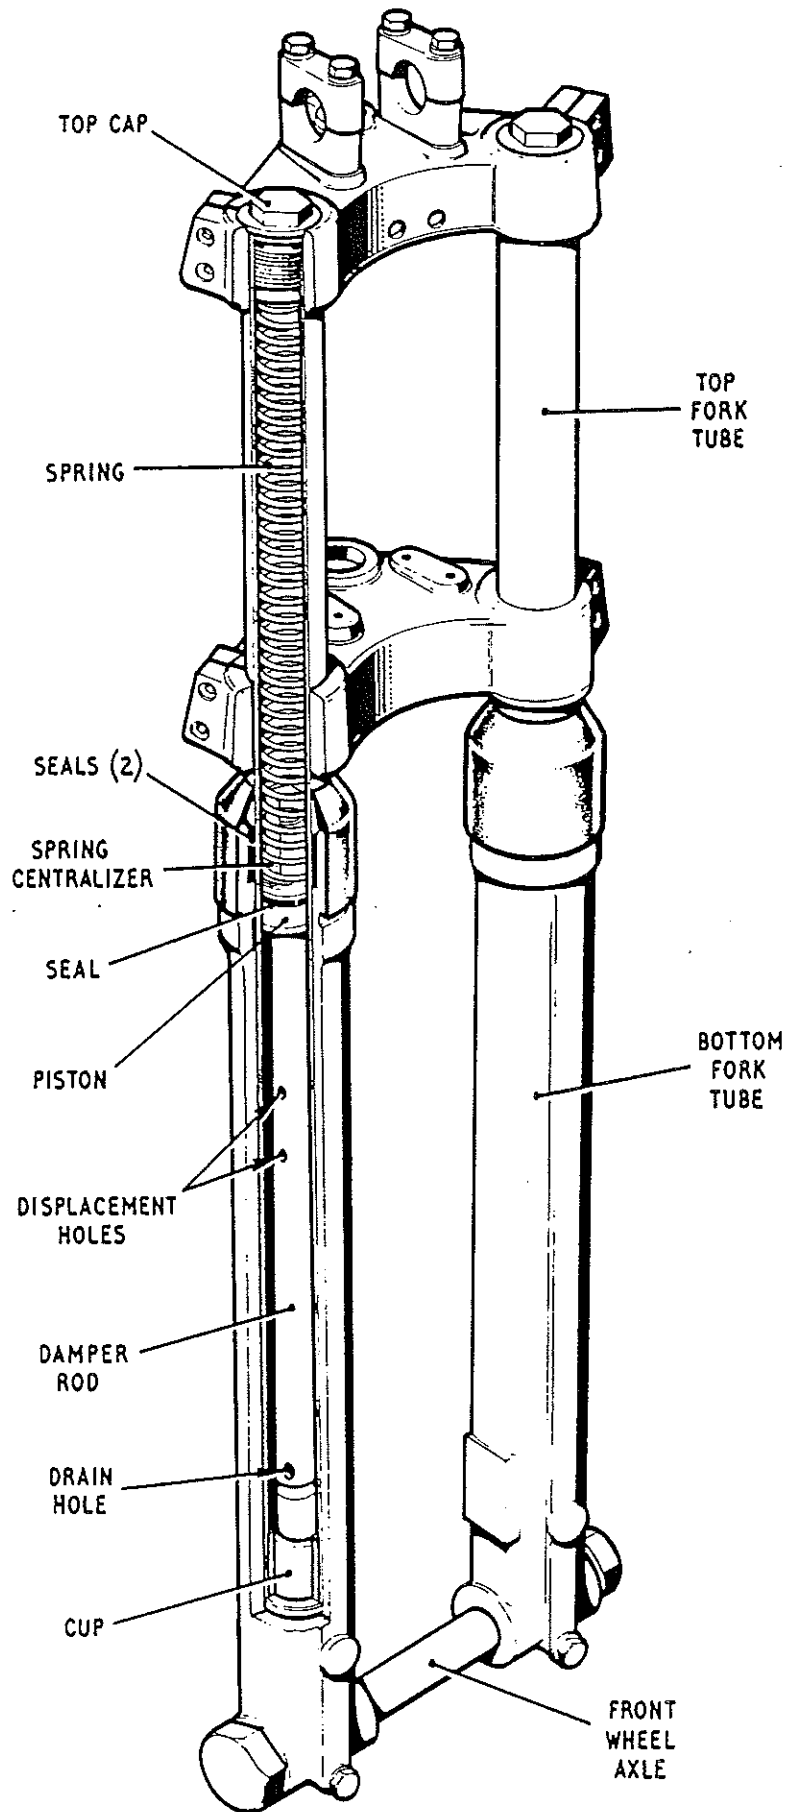

FIG. 8.1 FRONT SUSPENSION UNIT
8.5 Operation. The fork springs form the main part of the suspension as in normal vehicle systems employing leaf or coil springs. The spring oscillations are damped out by using a hydraulic damper. As the unit is compressed, air in the top chamber is pressurized. The pressure is felt down the centre of the piston rod and forces the oil level down. The oil is forced out of the hole(s) in the piston rod. As soon as the oil uncovers the hole, air pressure is released into the bottom chamber. If the unit is compressed more the pressure in the top tube is increased and the oil in the piston rod is forced down further. The travel is consequently greater and the second hole is uncovered. The damping effect therefore is by forcing the oil out of the holes. If a thinner oil is used it will pass through the holes more readily giving a softer ride and conversely if thicker oil is used it would mean harsher damping. Again if the oil level is too high more pressure would be required to push the oil level down to the holes, and again it would lead to harder suspension. Conversely if the level were too low only a small pressure would be required to uncover the holes. As the spring re-asserts itself a depression would be felt in the top chamber as the volume increased and oil would be drawn from the bottom chamber through the holes to the inside of the piston rod. Thus causing a damping effect on the upward stroke as well as the downward stroke. See Fig. 8.1.